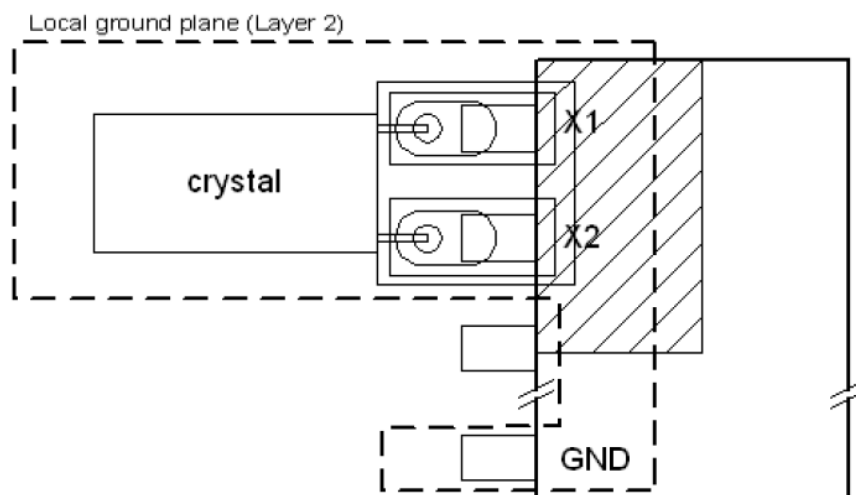

Figure 5. Recommended layout for crystal.
5. It may also be helpful to place a local ground plane on the PC board layer immediately below the crystal. This helps to isolate the crystal from noise coupling from signals on other PC board layers. Note that the ground plane needs to be in the vicinity of the crystal only and not on the entire board. See **Figure 5** for an illustration of a local ground plane. Note that the perimeter of the ground plane does not need to be larger than the outer perimeter of the guard ring.